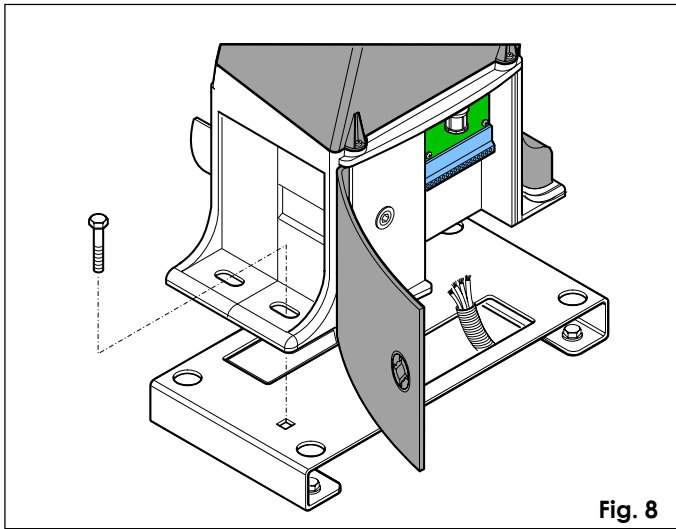

Fig. 8
- Position the operator on the plate, using the supplied screws as shown in figure 8.